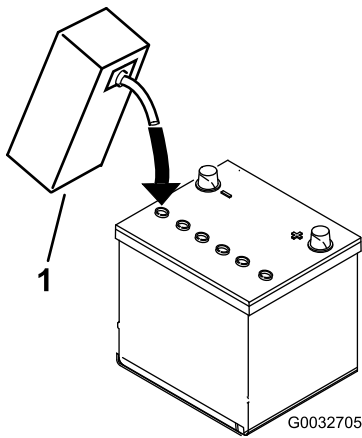

Figure 7
- Carefully fill each cell with electrolyte until the plates are covered with about 6 mm (1/4 inch) of fluid (Figure 7).
4. Allow approximately 20 to 30 minutes for the electrolyte to soak into the plates. Fill as necessary to bring the electrolyte to within about 6 mm (1/4 inch) of the bottom of the fill well (Figure 7).